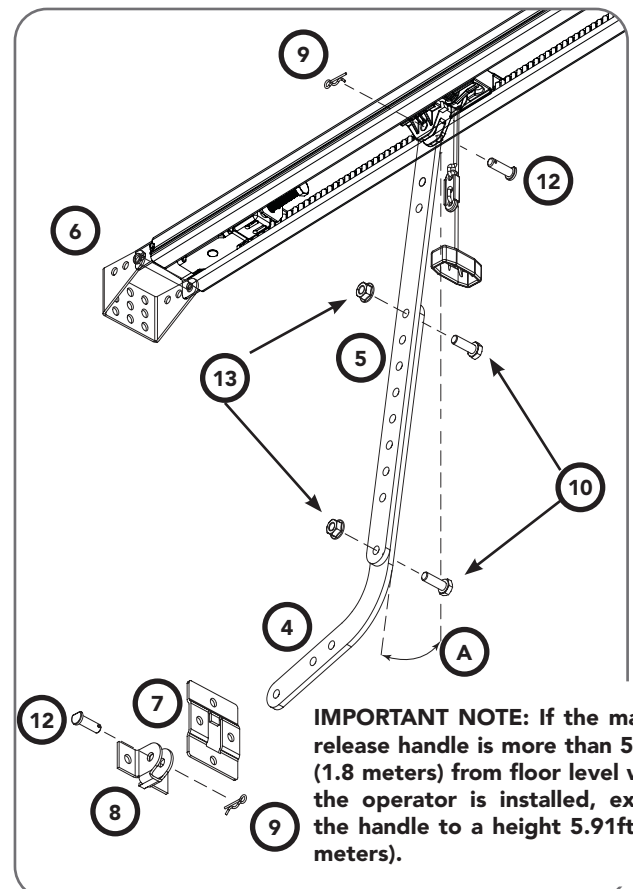

Fig.6.2.7
- a. Assemble the bent arm (4) (connecting to the door) to the right side of the straight arm (5) with bolts (10) and nuts (13) supplied in the accessory pack. Connect the straight arm (5) to the shuttle with a clevis pin (12) and a pin snap (9). Always use both bent and straight arms (Fig 6.2.7).
- b. Connect the assembled arm to the bracket with clevis pin (12) and pin snap (9). The angle "A" must be more than 10°.